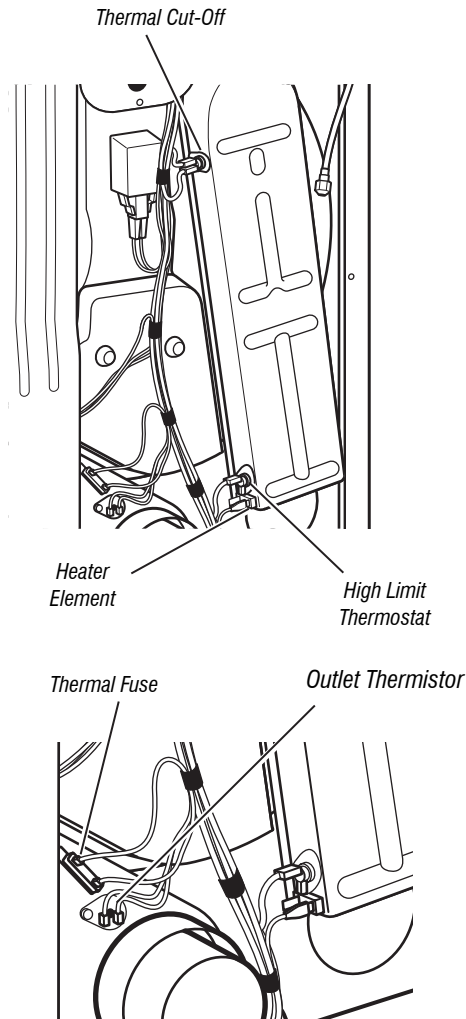

Figure 8 - Thermal components, electric dryer.
Locate the components using figures 8 and 9, page 20 and 21. To access heater system components, remove the back panel.
3. Using an ohmmeter, check the continuity across the thermal cut-off. See figures 8 and 9, pages 20 and 21 for location.